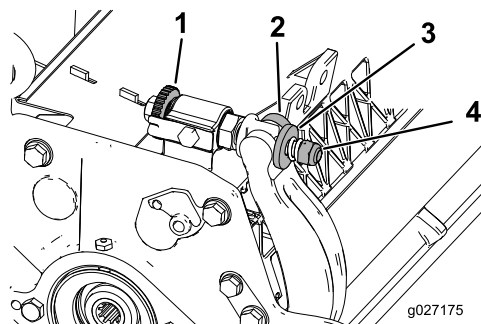

Figure 24
1. Turn the bedbar adjusting screws counterclockwise to back the bedknife away from the reel (Figure 24).
2. Back out the spring-tension nut until the washer is no longer tensioned against the bedbar (Figure 24).